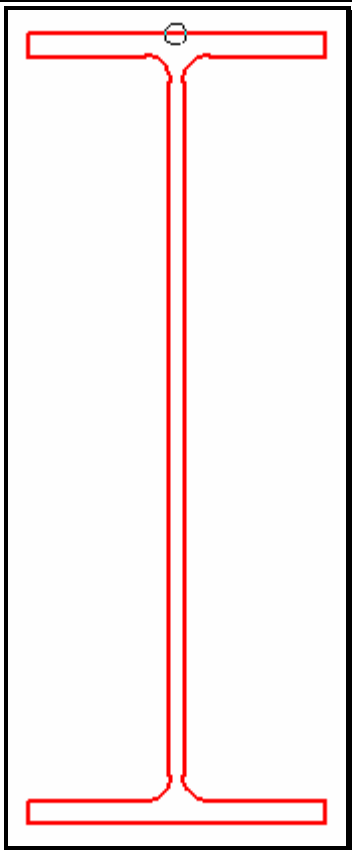

Figure 2-111: Placed Shape
The shape should appear where you *Datapoint* (Figure 2-111).
- ♪ Notice the circle at the center of the top flange in Figure 2-111. This is the **Origin** point that I selected in **Step Three**.